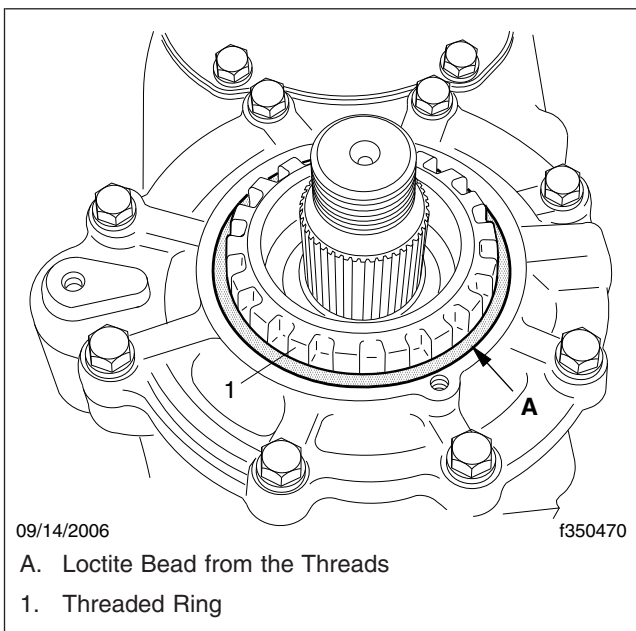

Fig. 3, Preliminary Installation of the New Threaded Ring
8. Install the threaded ring (without the new input-shaft seal) and turn it clockwise (tighten it) enough to form a uniform bead of sealant all the way around the threaded ring. See Fig. 3.